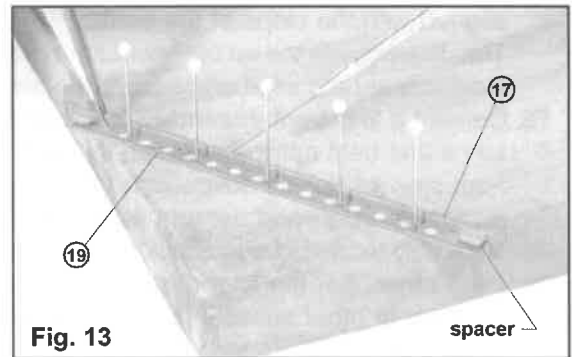

Fig. 13
10. Cement a **tower strut side, inside** part (16) or (17) to a **tower strut lattice part (19)**. See the exception note above.
On a block of soft wood or a piece of cardboard, place part (19) with the rib side up, across a corner of the block so both ends overhang the block slightly. See fig. 13. Pin the part to the block with several straight pins so it cannot move. Place part (17) on edge on part (19), against the inside of the raised rib, with the spacers to the inside and flush with the ends of part (19). Apply cement along the rib, making sure part (17) is vertical and perpendicular to part (19). Use the plates at each end for reference.
11. Cement a **tower strut side, outside** part (18) to the tower strut assembly.